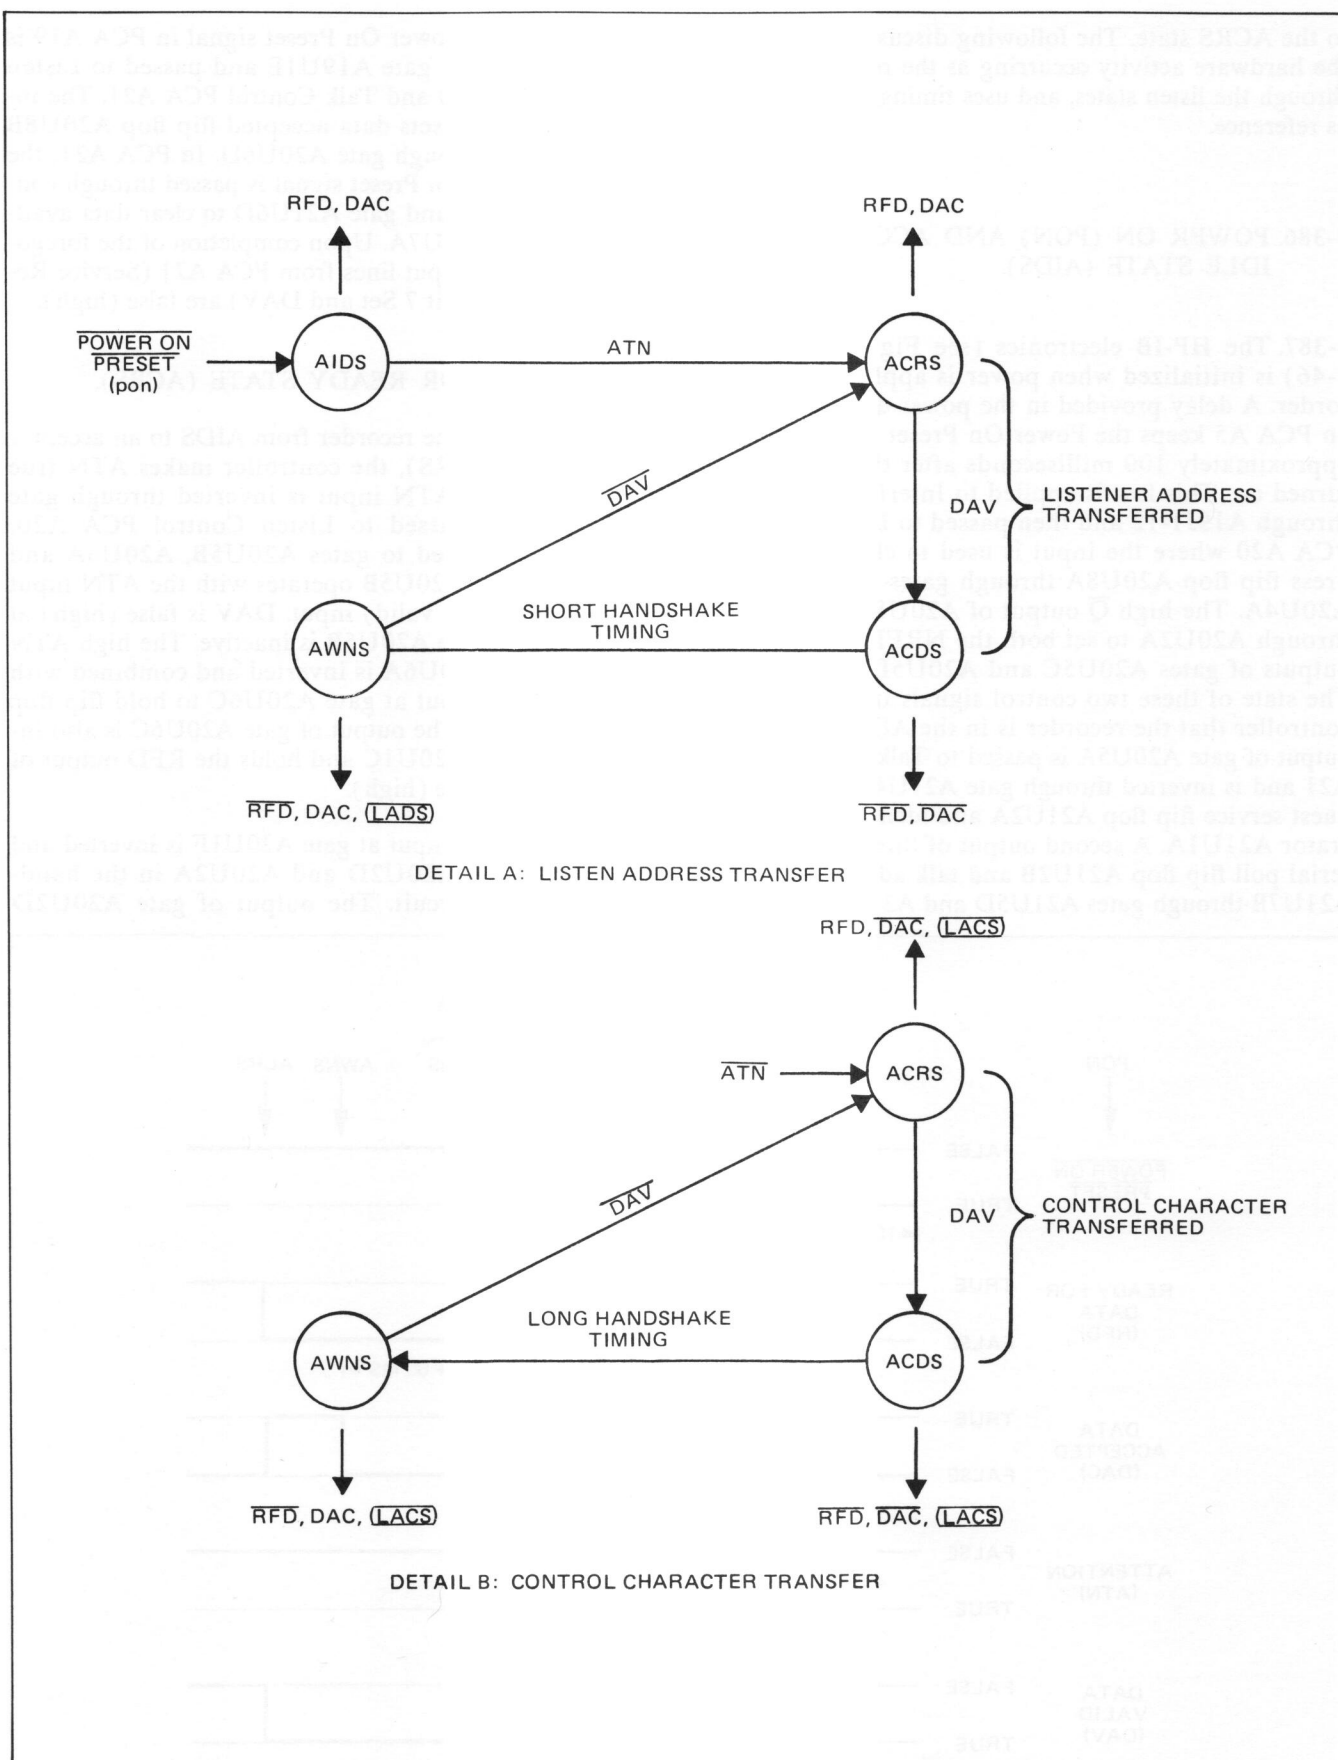

Figure 4-26. Recorder Acceptor Handshake State Diagram
4-383. The listen electronics in the recorder is used to transfer mode and speed commands from the controller to the recorder. Figure 4-26 is a state diagram of the recorder electronics as the unit moves through address and control word transfers. This state diagram is a modified version of the acceptor handshake (AH) diagram shown in the IEEE Standard 488-1975. The ANRS state (acceptor not ready state) is not used in the recorders, and is not illustrated in Figure 4-26. This state is normally used to permit an acceptor to perform internal operations before moving to the ACRS state (acceptor ready state). To move from the ANRS to ACRS state, an acceptor uses an internally generated RDY (ready) signal. In recorder operations, time required to perform internal operations is included in handshake timing, therefore the RDY signal is not used and ANRS is not illustrated.
4-384. When power is first applied to the recorder, a Power On Preset signal generated in the recorder performs the PON (power on) function to place the recorder in the AIDS state (acceptor idle state) as illustrated in Detail A, Figure 4-26. The recorder makes both RFD (ready for data) and DAC (data accepted) true to indicate that it is in AIDS. When the controller has data to pass to the recorder, the recorder must be addressed. First the controller moves the recorder to the ACRS (acceptor ready state) by making ATN (attention) true. The recorder responds when it is in ACRS by making RFD true and DAC false. The controller then places the listen address on the DIO lines and makes DAV (data valid) true indicating that valid data is on the DIO bus. This function moves the recorder to the ACDS (accept data state), and the recorder responds by making RFD and DAC false. The recorder goes through a 4 μ secs short handshake delay and automatically enters the AWNS state (acceptor wait for new cycle state). At this time the recorder is in a LADS state (listener addressed state), and has RFD false and DAC true. The controller moves the recorder back to the ACRS state by making DAV false, where a control character can be transferred again on the data lines.
4-385. To transfer data rather than an address, the controller makes ATN false (see Detail B, Figure 4-26). When ATN goes false, the recorder Listener Address State (LADS) is converted to a LACS (Listener Active State). In the recorder, this state replaces ATN to move the recorder through the ACDS and AWNS states back to ACRS. With the recorder in ACRS and with LACS active, the controller makes DAV true and places the control character on the DIO lines. The recorder now enters the ACDS state and makes RFD and DAC false. The recorder goes through a 60 millisecond long handshake and automatically enters the AWNS state with RFD false and DAC true. The controller now makes DAV false and returns the recorder
4-421. The serial poll is initiated by the controller moving the listen electronics from AIDS to ACDS using the true ATN and DAV signals as shown in Detail A, Figure 4-26 and described in paragraphs 4-383 and 4-384. The recorder responds by changing the RFD and DAC levels as indicated. When moving from the ACRS state to ACDS state, the controller places an SPE (serial poll enable) address on the DIO lines to activate the talk electronics serial poll logic. Now with IFC (interface clear) false, the recorder in the ACDS state and SPE on the DIO lines, the recorder moves from the SPIS to SPMS (serial poll mode state) as shown in Detail A, Figure 4-28.